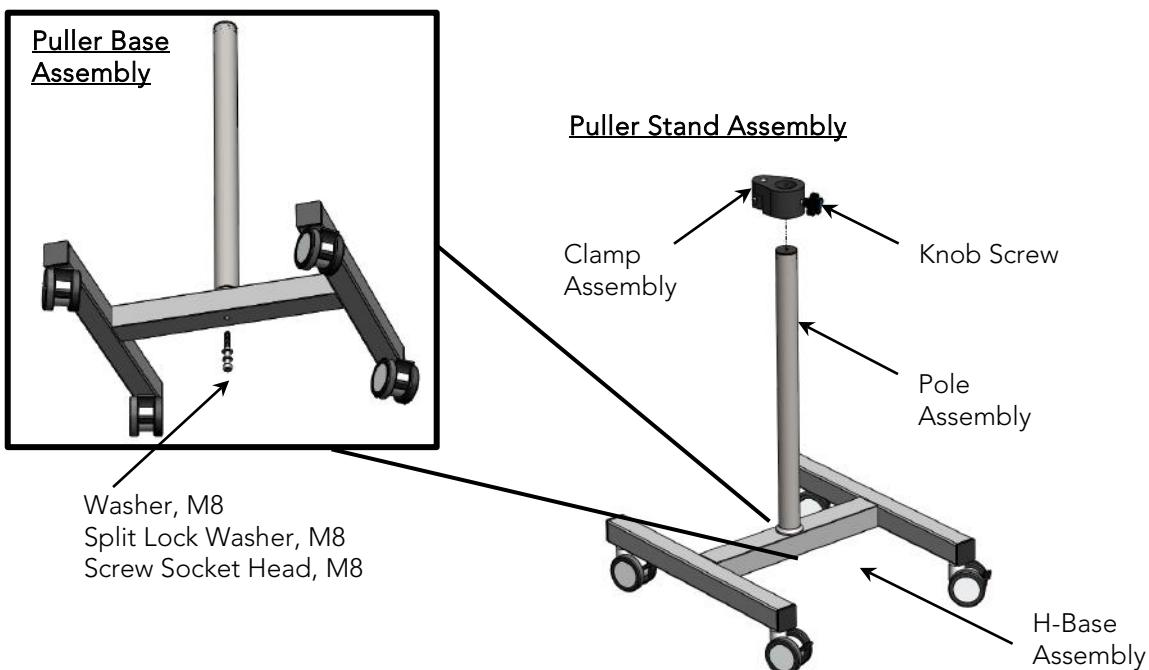

Figure 18: Puller Base and Puller Stand Assembly
1. Connect the Pole Assembly to the H-Base Assembly using the provided Washer M8, Split Washer M8, and Screw M8. Use the 6mm HEX L-Key to secure the screw (Figure 18).
2. Slide the Clamp Assembly into the post of the Puller Base Assembly and lock it in position with the Knob Screw provided. Use a 4mm Hex L-Key to insert the Puller into the Clamp Assembly (Figure 18).